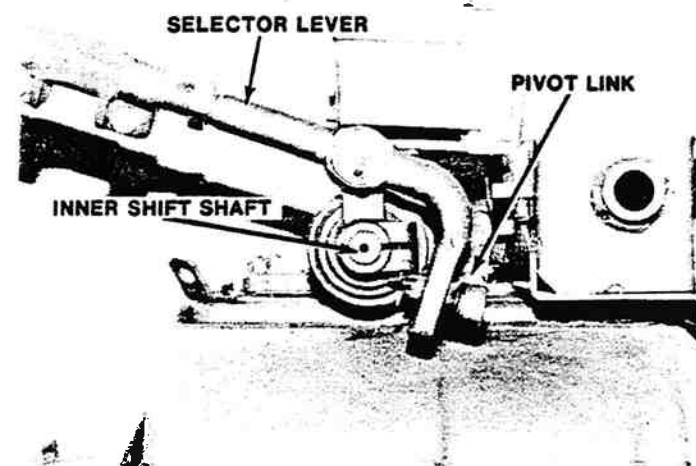
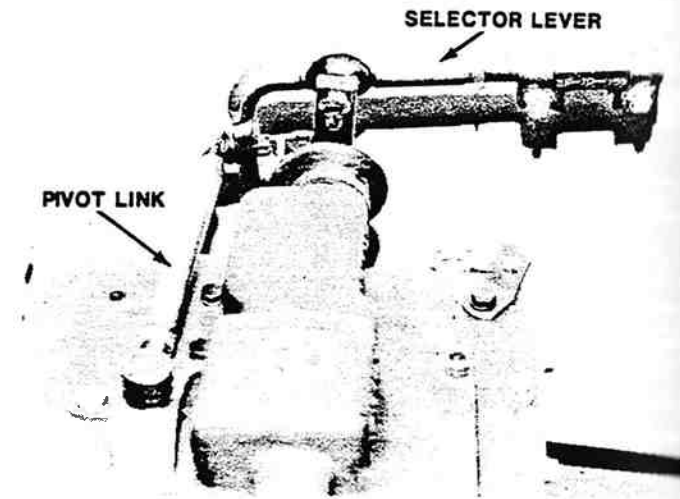

Figure 13-185. Inner Shift Shaft, Selector Lever and Pivot Link.
Figure 13-186. Pivot Link and Selector Lever Installation.
4. With outer shift lever in vertical position (figure 13-186), find approximate center of free in-and-out movement of inner shift shaft (figure 13-185).
5. Maintaining this position, adjust pivot link until bottom end of selection lever is vertical (when viewed from the rear of the coach) and forward end aligns with control rod (figure 13-185).
8. "Fine tune" adjustments by lengthening or shortening pivot link if required. Tighten jam nuts and check all shifts for proper interference-free positions (figure 13-186).